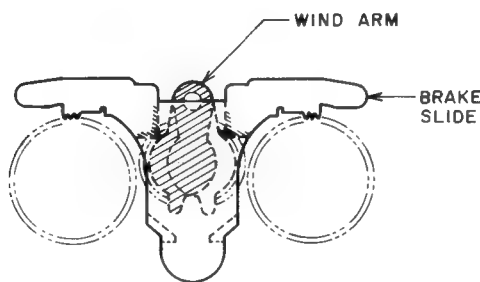

Fig. 5-7
- c. The slide brake at the middle position (Refer to Fig. 5-7)